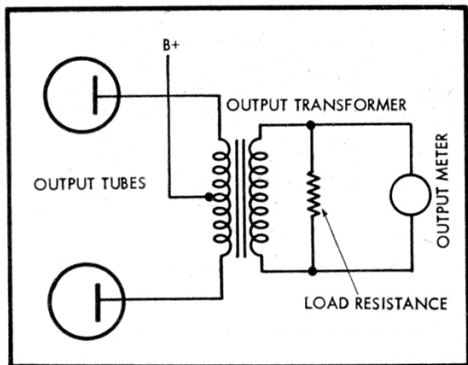

Fig. 8. Practical and equivalent circuit of output transformer for high frequency response: (A) actual circuit: (B) equivalent plate load for output tubes.
**A**S THIS distortion due to reactive loading is quite similar to the varieties that a transformer causes at high frequencies we will consider both together. (A) in Fig. 8 shows the practical circuit of an output transformer while (B), Fig. 8 shows the load seen by the output tubes.
Directly shunting from plate to plate is the primary capacitance of the transformer. The load resistance gets stepped up by the ratio  $N^2$  but, due to leakage flux that gets between the primary and secondary windings, there is an effective inductance between this load and the tubes, shown in the equivalent circuit of (B), Fig. 8 as leakage inductance.
The two ways in which the reactances of (B), Fig. 8, can cause the load line to open out to an ellipse are illustrated against composite tube characteristics at Fig. 11. The series leakage inductance causes a voltage drop additional to that in the load and increases the effective plate-voltage swing while cutting down the current. The shunt capacitance takes additional current from the output tubes and tends to drop the plate-voltage swing. The resultant ellipse depends on which of these two effects is the greater. As we shall see presently, the transformer can present one of two kinds of impedance response to the output tubes. From the viewpoint of potential high frequency distortion this is the most important difference between different output transformers that may appear